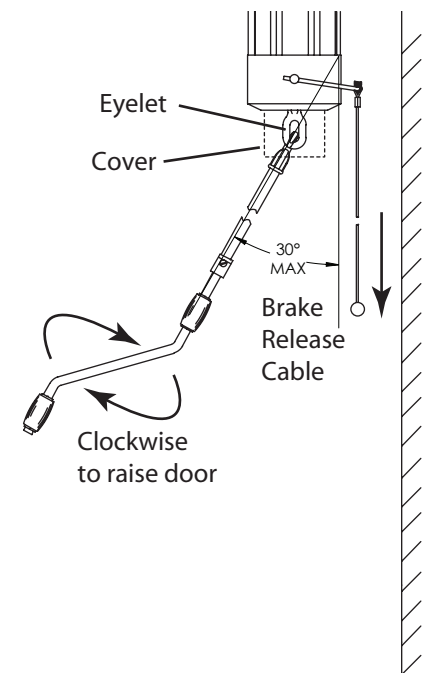

Fig 4-I
- A.** Using the hand crank, rotate the barrel assembly so that the bolt holes or studs on the barrel rings are facing up. Different barrel assembly lengths will have more or less rings/studs, **Fig. 4-K(a)** and **Fig. 4-K(b)**.